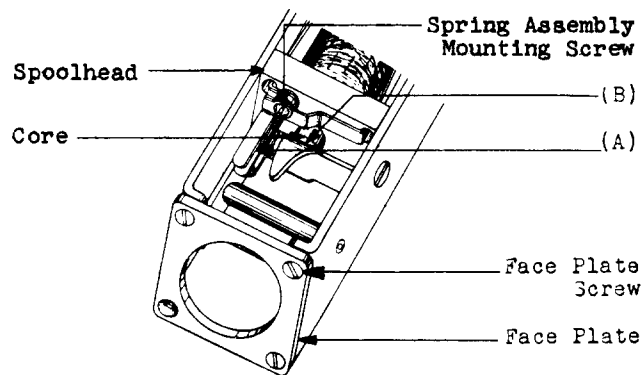

Fig. 4 — Armature Airgap
2.09 Contact Follow: Fig. 4(A) — With the armature operated, there shall be a perceptible clearance between the upper flexible contact spring and its stop spring, at least at the end of the stop spring that is nearest the contact.
***2.10 Armature Airgap:** Fig. 4(B) — The armature shall not touch the face of the core as the relay operates electrically.